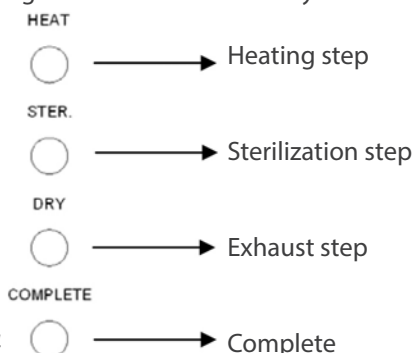

Fig. 24
F.4 Turn the "Liquid Sterilization" switch to ON(I) position for liquid sterilization, see "5.2.3.3 Control Panel – Liquid Function (optional)" for reference.
F.5 Press the START Button. The current progress of the sterilization cycle is indicated on the Process Status Indicator. (Figure 24)